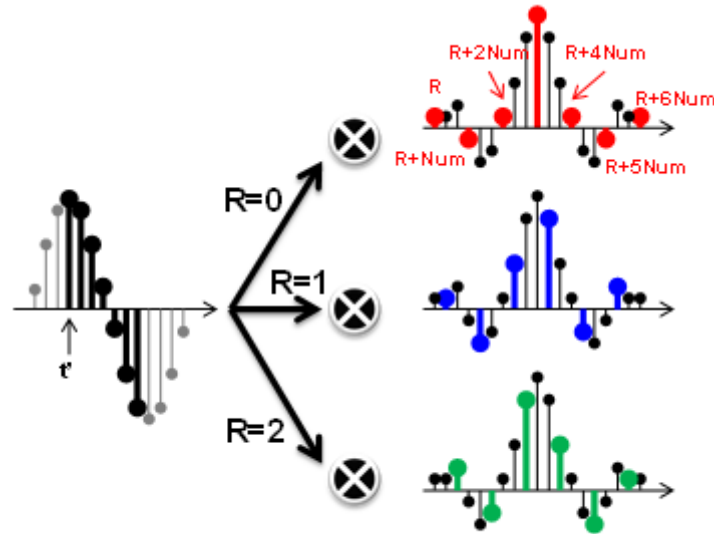

Figure 4 Convolution[⌘]
- The superposition process described above is illustrated in Figure 4.